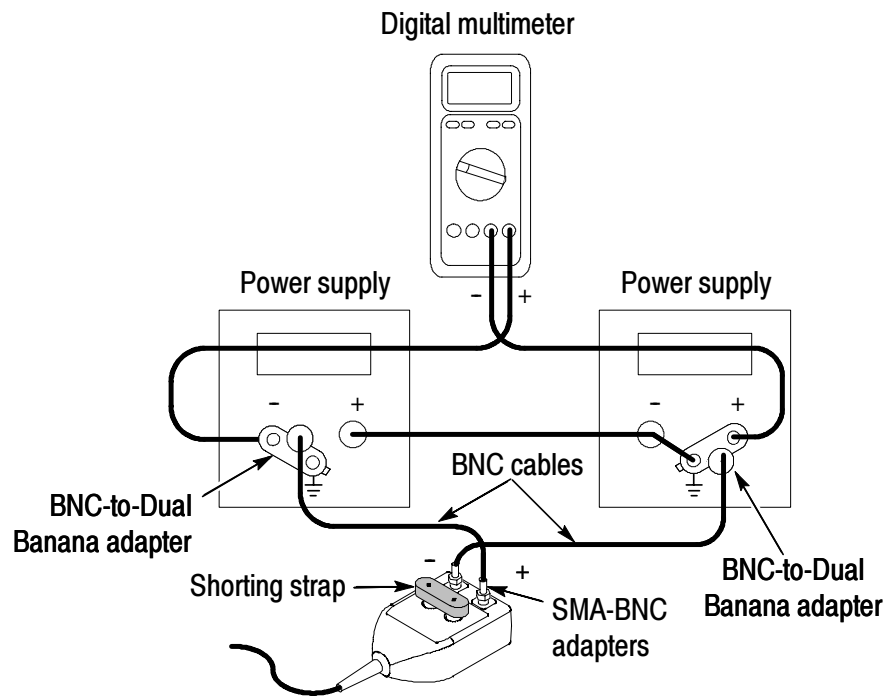

Figure 30: Reverse the power supply polarity on the probe inputs
5. Connect the BNC-to-dual banana plug adapters into the opposite power supplies to reverse the voltage polarity to the probe inputs. See Figure 30.